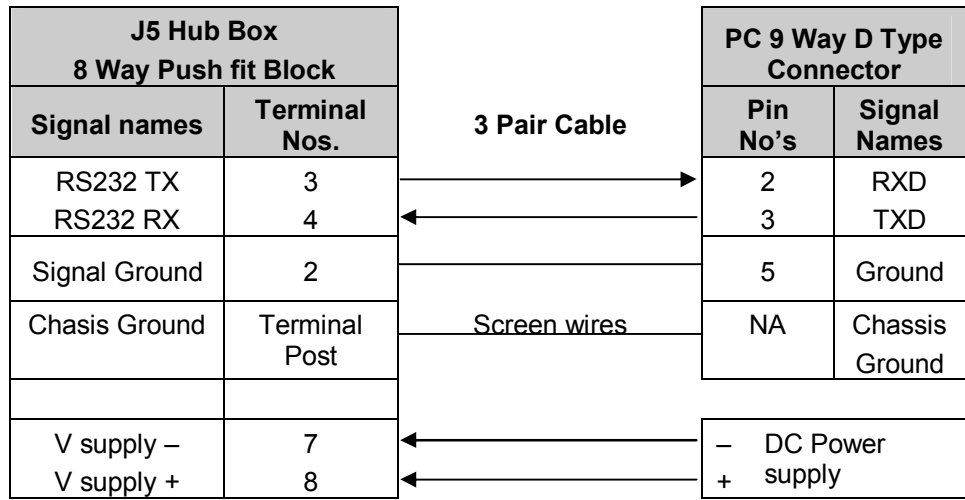

Figure 6 RS232 connections
- RS232                                      Figure 6